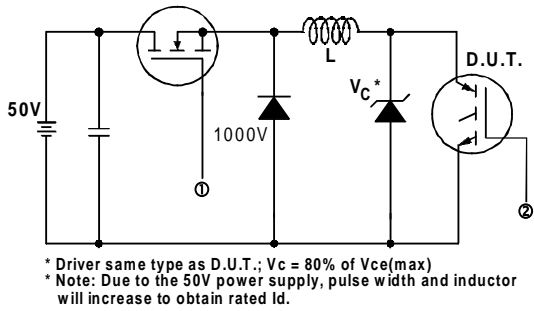

Fig. 13a - Clamped Inductive Load Test Circuit
- ② $V_{CC} = 80\%(V_{CES}), V_{GE} = 20V, L = 10\mu\text{H}, R_G = 100\Omega$, (See fig. 13a)
- ③ Repetitive rating; pulse width limited by maximum junction temperature.
- ④ Pulse width $\leq 80\mu\text{s}$; duty factor $\leq 0.1\%$.
- ⑤ Pulse width $5.0\mu\text{s}$, single shot.